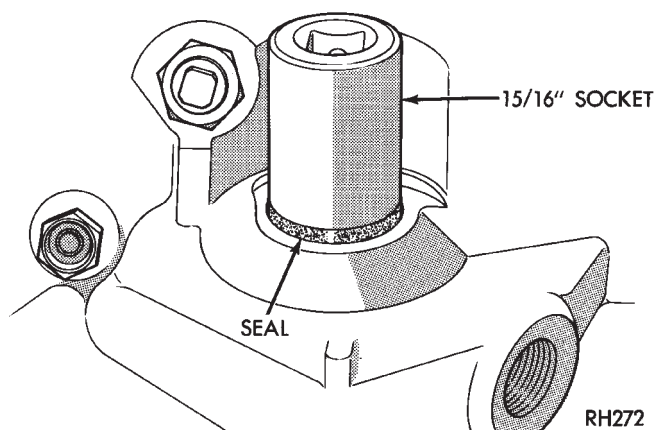

Fig. 16 Manual Lever Shaft Seal Installation
- (3) Check condition of manual lever shaft seal in transmission case. Replace seal if lip is cut, or worn. Install new seal with 15/16 deep well socket (Fig. 16).